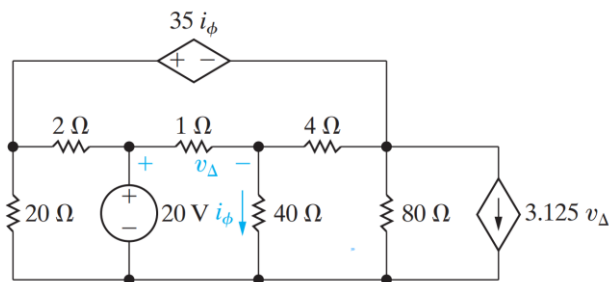

Fig 3
3. [6%] Use the node-voltage method to find the power developed by the 20V source in the circuit in Fig 3.